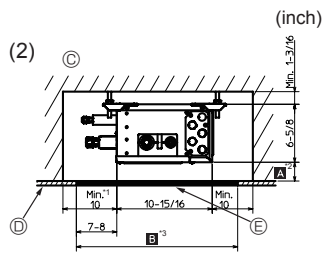
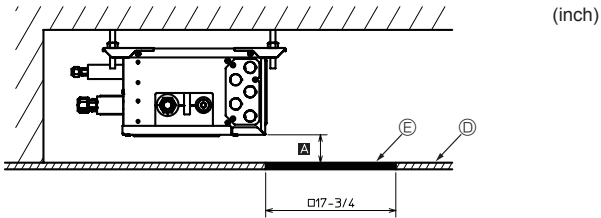

Fig. 4-7
Fig. 4-8
(2) Side View (Fig. 4-7, Fig. 4-8)
In the case of "□ 17-3/4 inch (450 mm)", prepare a maintenance hole at a PCB side (as it is shown in Fig. 4-8), and "Min. 11-13/16 inch (300 mm)" is needed as distance Ⓐ.